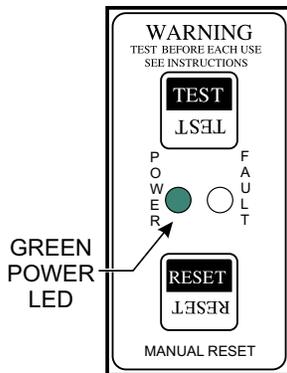

Figure 38. GFCI Module (Green LED ON)
3. On the GFCI module (Figure 38), verify that the *green* POWER LED is **ON**.